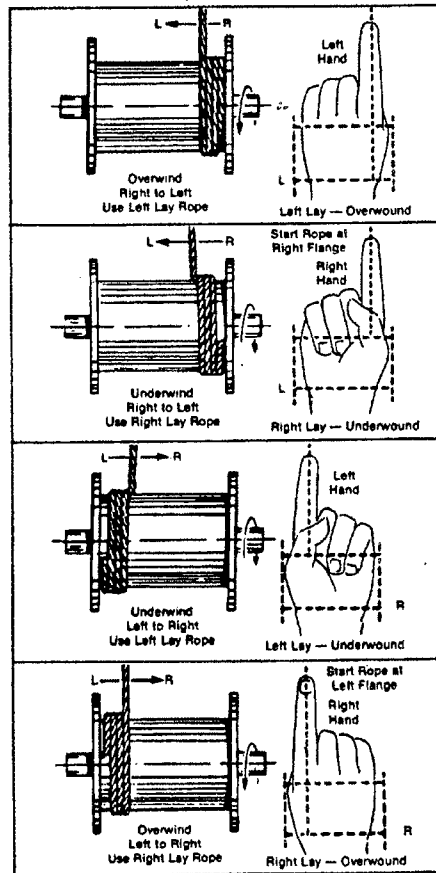

Fig. 2-13 Proper method of locating rope anchorage point on a drum
- (5) Left lay rope should be treated in an opposite manner. (See **Figure 2-13** for the "Thumb Rule".)